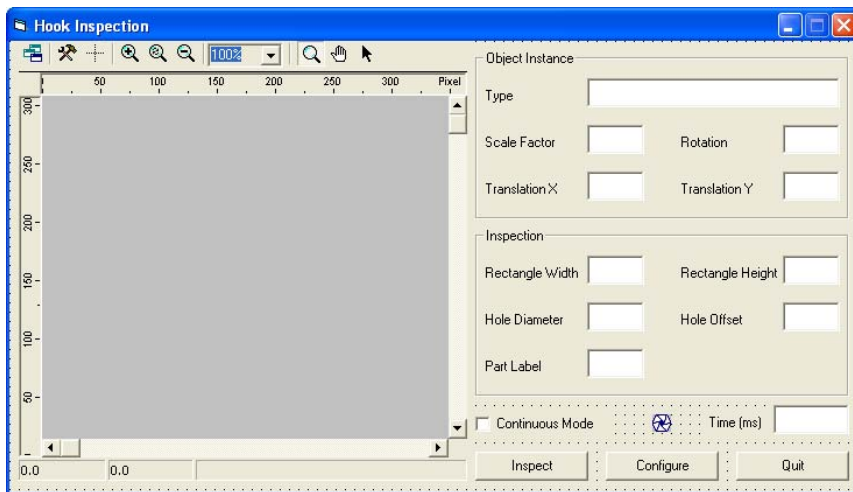

Figure 73 Visual C++ Dialog for Tutorial 5
1. On your application dialog, add one edit box. Name it **IDC_EDIT_LABEL** and add an appropriate label. Set everything to appear as illustrated in Figure 73.